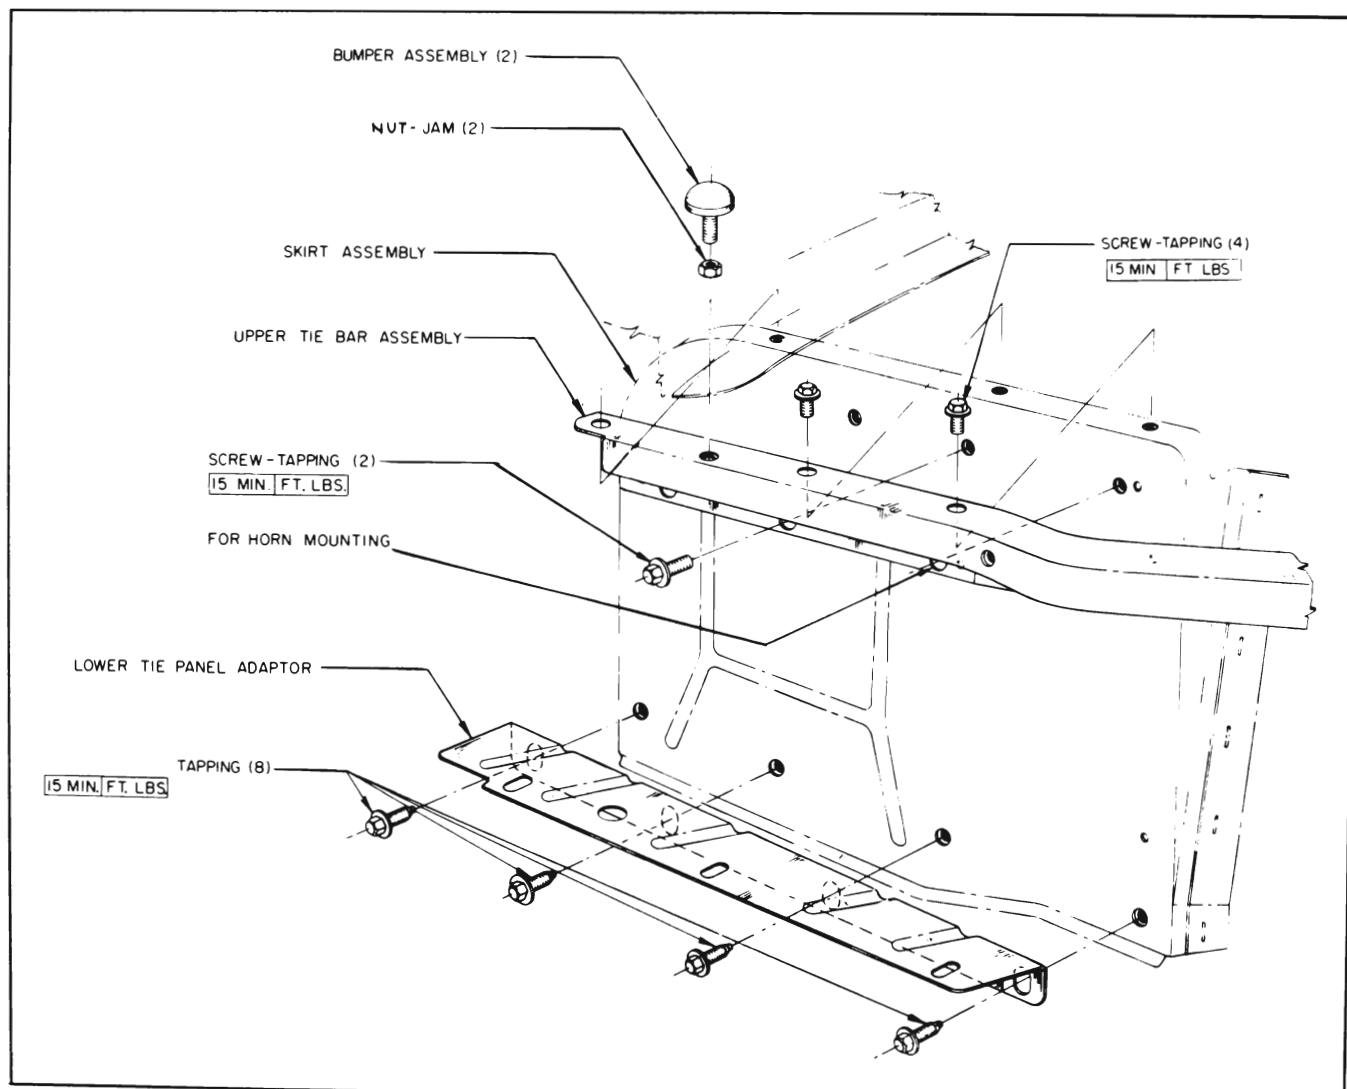

Figure 12-10—Front End Sheet Metal
3. Front Height. This is determined by two adjustable bumpers. See Figure 12-10. However, the front of the hood may not contact these bumpers unless the hood latch is correctly adjusted as described in step 4.